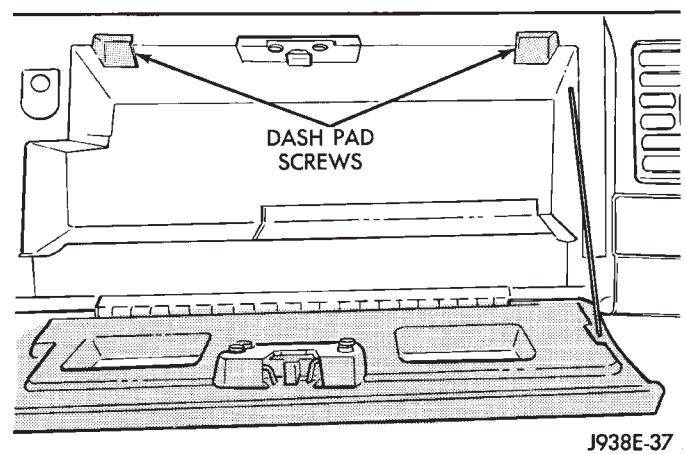

Fig. 4 Remove Screws Holding Dash Pad
- (10) Open glove box and remove 2 screws holding dash pad (Fig. 4).